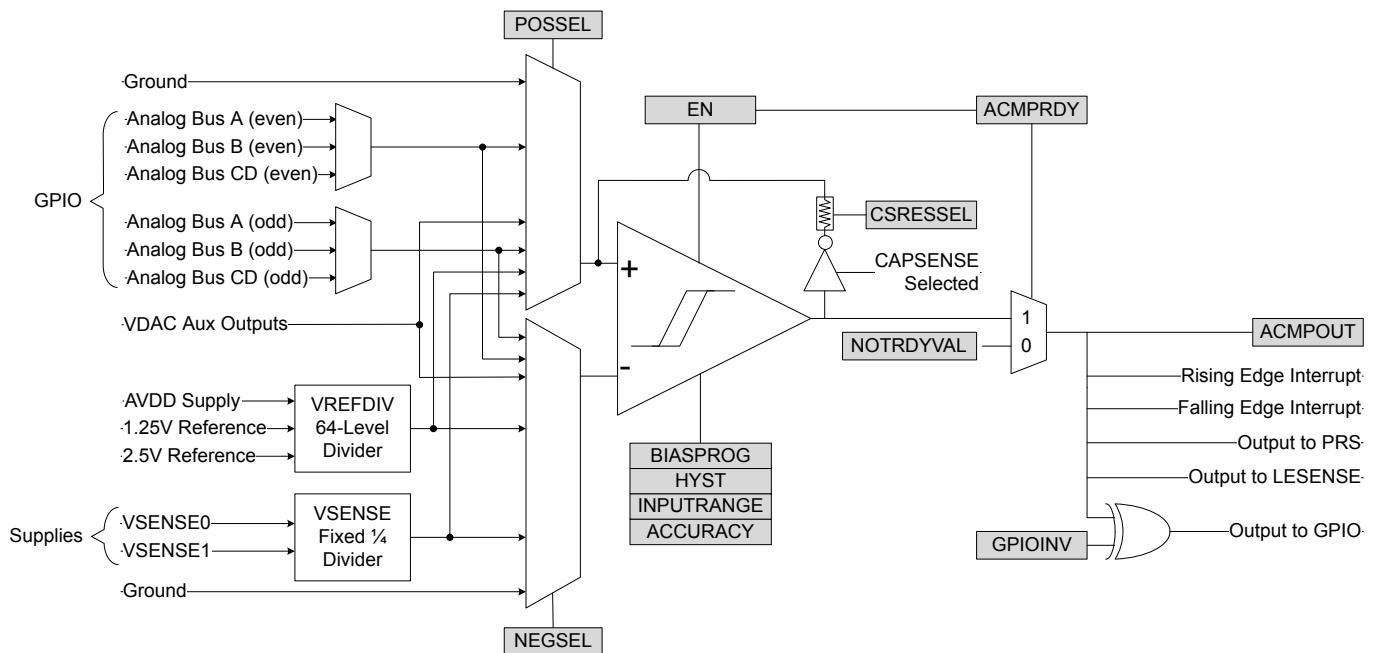

Figure 31.1. ACMP Overview
An overview of the ACMP is shown in Figure 31.1 ACMP Overview on page 1222.
The ACMP can be used to monitor supply voltages. This is done by selecting VSENSE01DIV4(LP) or VSENSE11DIV4(LP) for either POSSEL or NEGSEL. Note that the input to the comparator core will be divided by 4, as illustrated in Figure 31.1 ACMP Overview on page 1222. To reduce energy consumption, a sample/hold circuit can be used to periodically sample the power supplies. To enable this, select VSENSE01DIV4LP or VSENSE11DIV4LP in POSSEL / NEGSEL. Because the sample/hold feature uses the comparator in a non-continuous fashion, enabling this will increase response times and reduce the accuracy of the comparator. The connections between VSENSE0 and VSENSE1 to power supplies are summarized in Table 31.2 VSENSE connections on page 1224.